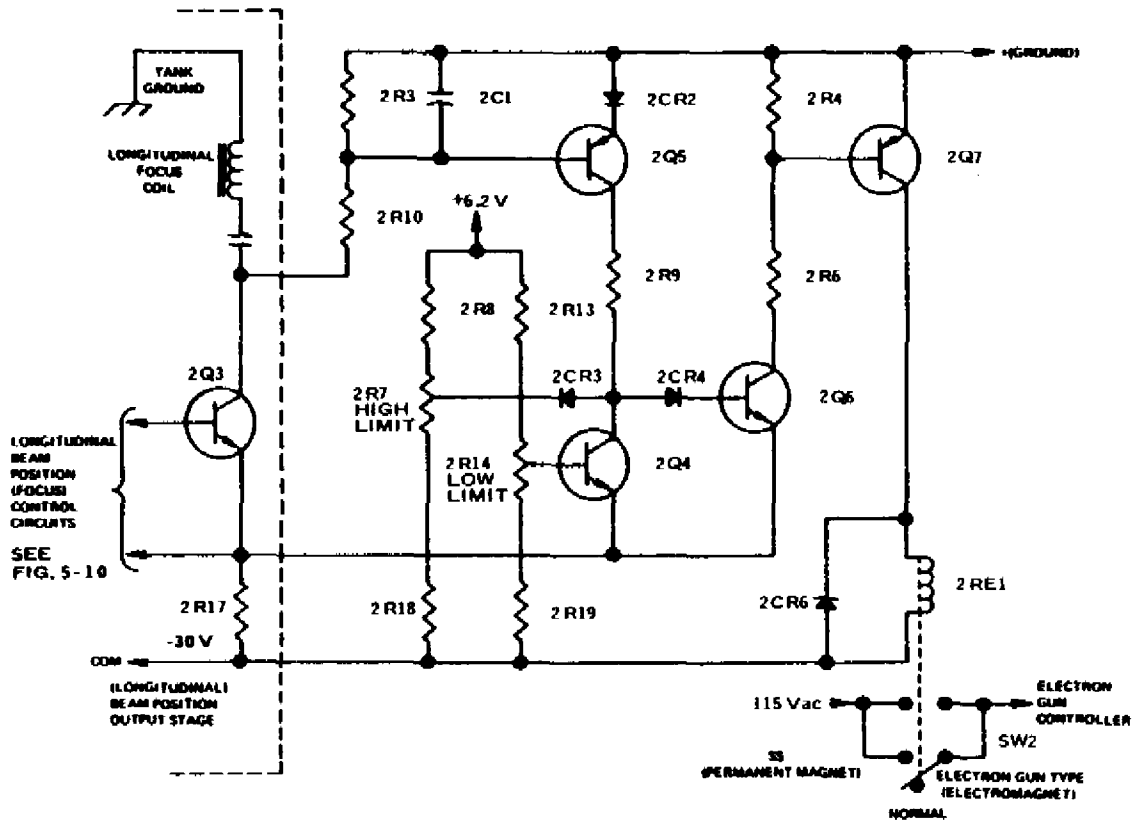

Figure 5-12. CV-8 A and B beam position (focus) interlock (drawing 407-3863C)
5.4.2 Beam Position (Focus) Interlock (Figure 5-12)